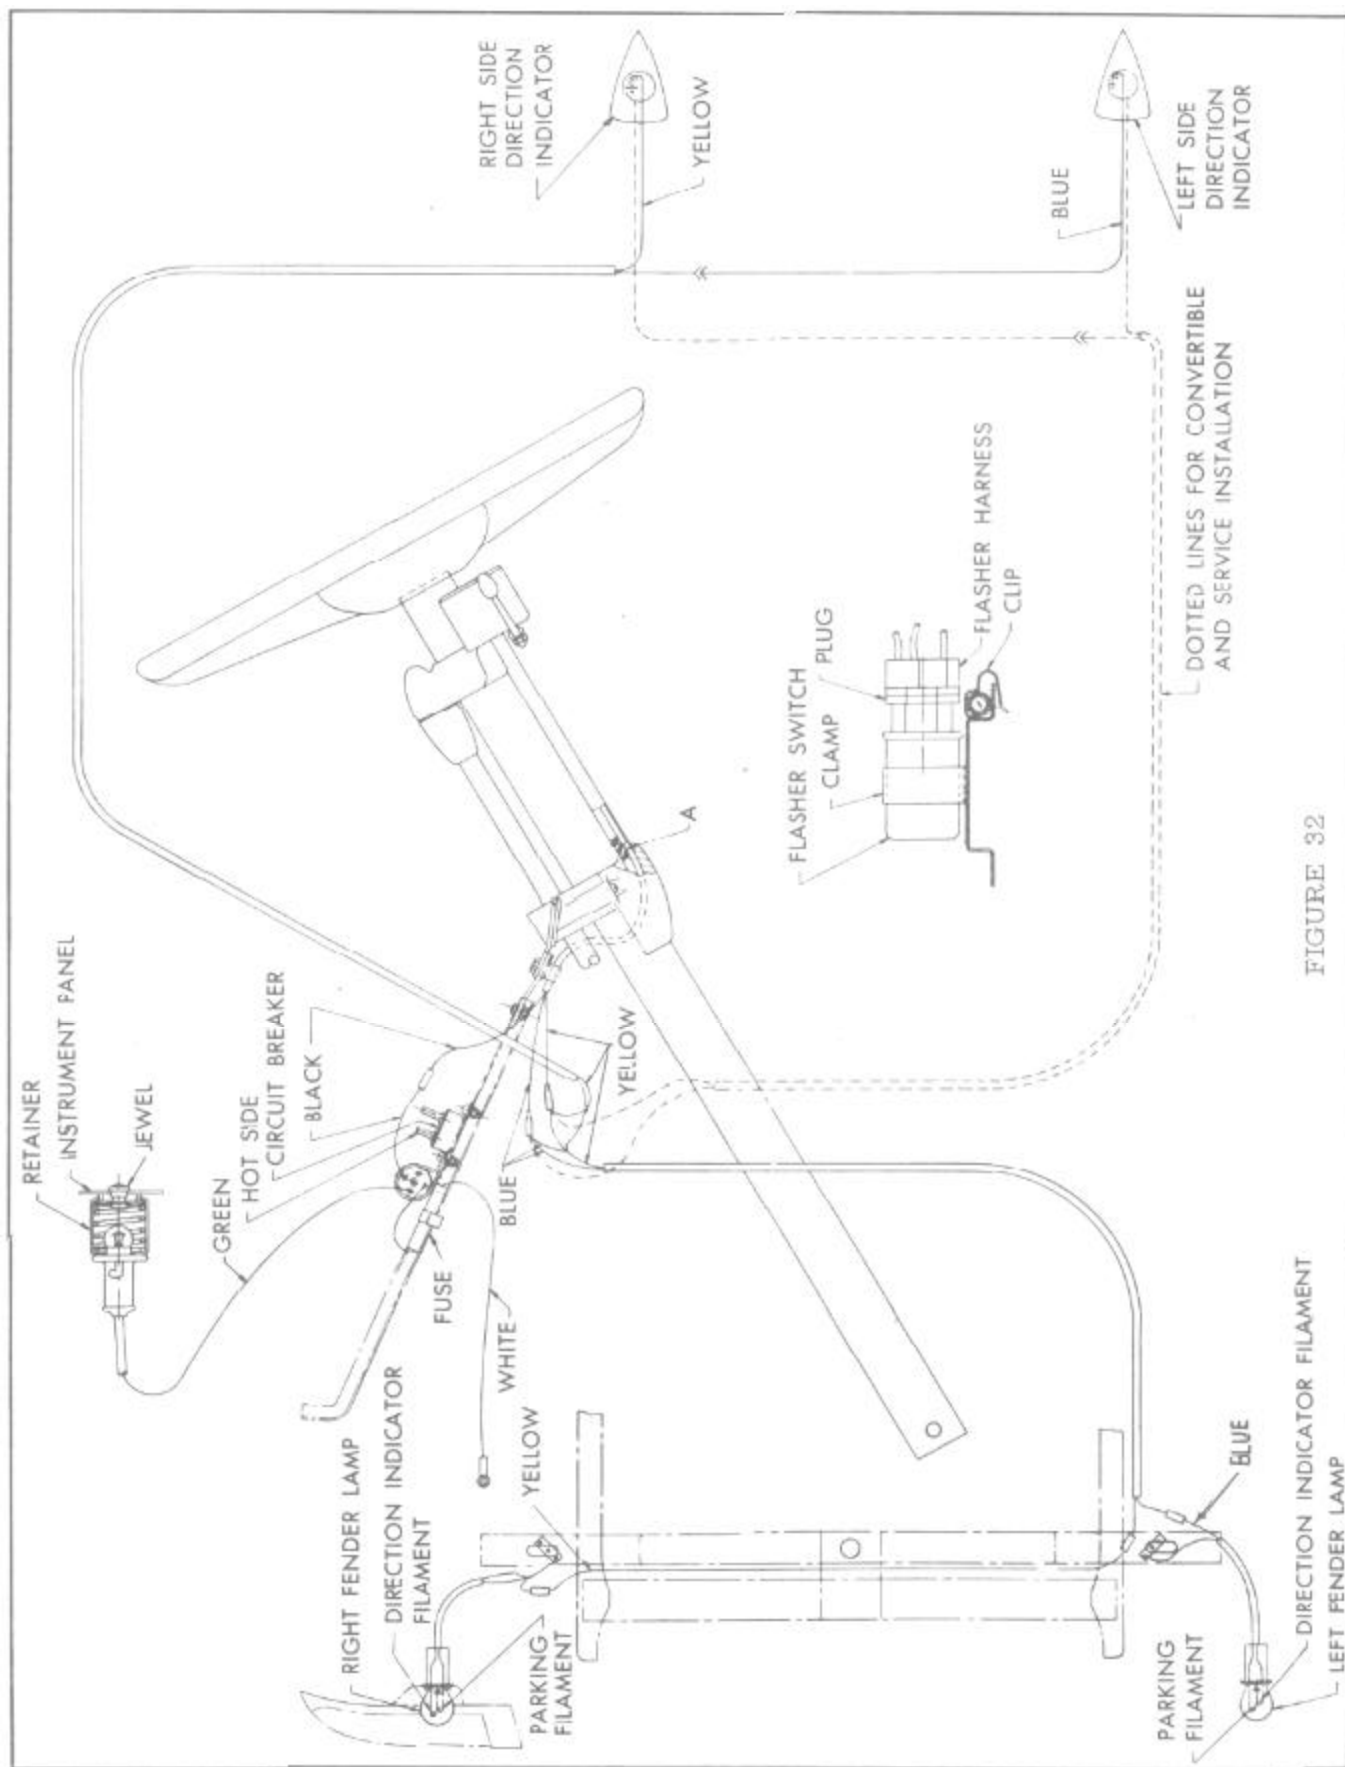

FIGURE 32
4. Insert rubber part No. 301852 between the steering column and switch wires under the conduit. See (A) Figure 32.
7. Clamp wires from steering column switch with clamp attached to the steering column brace as shown in Figure 32.
8. Install flasher switch in the hole located at rear of auxiliary circuit breaker in the steering column brace. See Figure 32.
**NOTE:** For complete illustration of wiring, see Figure 32.